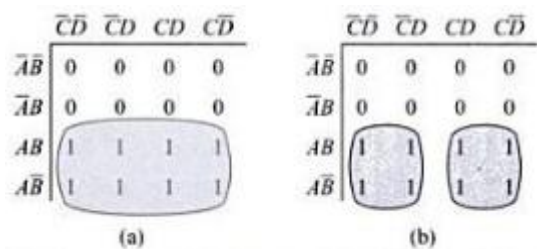

Figure 3.14: Example of octet
- Octet is a group of eight 1s. It eliminates three variables and their complements (Figure: 3.14).